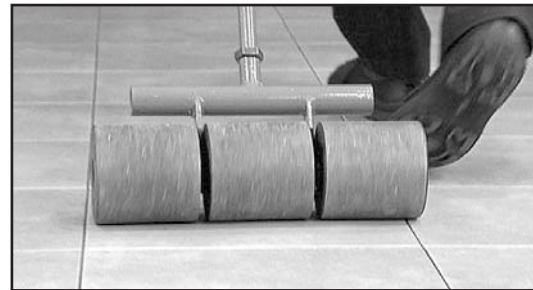

Fig. 17 - Roll the floor within one hour after setting tiles.
- Roll the floor slowly, in both directions, with a 100-pound, three-section roller within one hour after setting the tiles (Fig. 17). Re-roll the entire floor immediately before grouting or applying joint sealer.